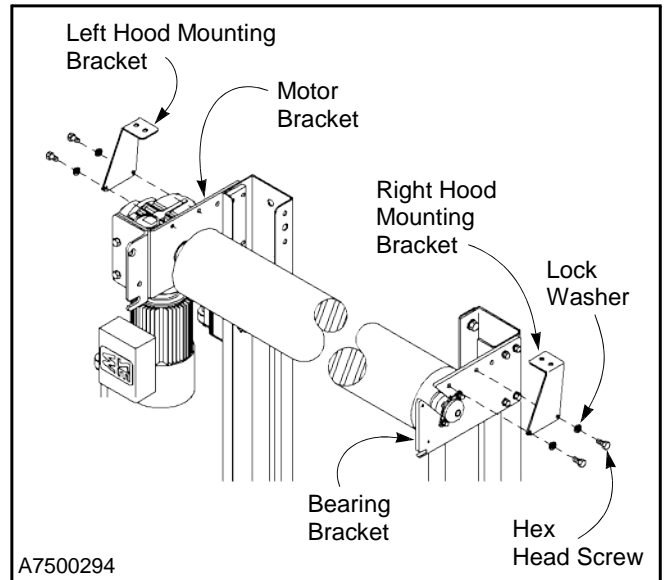

Figure 56
1. Mount the left and right hood mounting brackets to the motor and bearing support brackets. Use two  $\frac{3}{8}$ -in. stainless steel lock washers and  $\frac{3}{8}$ -16 x  $\frac{3}{4}$ -in. stainless steel hex head screws for each bracket. (See Figure 56.)